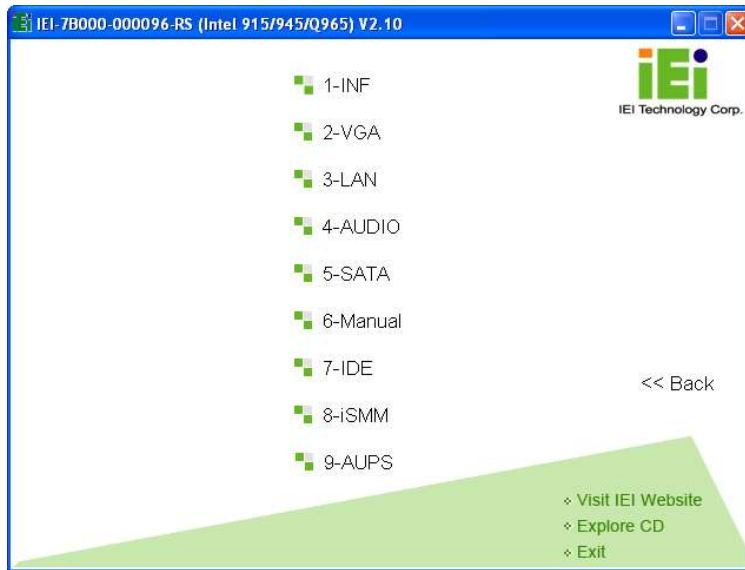

Figure 7-2: Available Drivers
Step 4: A new screen with a list of available drivers appears (Figure 7-2).
Step 5: Select the driver to install from the list in **Figure 7-2**. Detailed driver installation instructions follow below.
Step 1: Select **INF** from the list in **Figure 7-2**.
Step 1: Select the VGA driver from the list in Figure 7-2.
Step 1: Select the LAN driver from the list in Figure 7-2.
Step 1: Select **AUDIO** from the list in **Figure 7-2**.